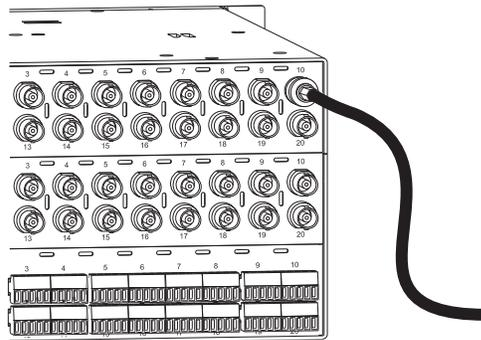

FIG. 21 Fasten cables onto input or output BNC connectors
1. Fasten the cables onto the input and output BNC connectors (FIG. 21).